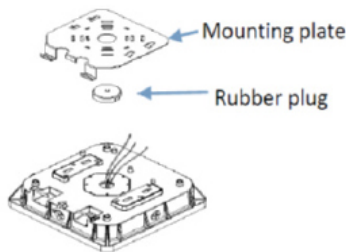

Fig. 1
- 1) Remove the rubber plug and mounting plate (Fig. 1)